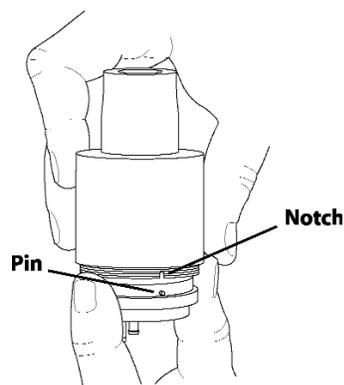

Figure 7-4. Align Exhalation Valve Cap and Body
7. To re-assemble the valve, reverse these steps taking care to align the guide pin on the valve cap with the slot in the valve body (see Figure 7-4 below).